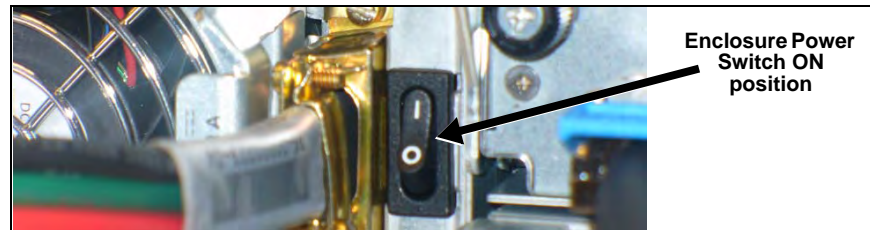

Figure 4.1 - Storage Enclosure DC Power Switch (Right)
3.	Power on the storage arrays. Power on the expansion enclosures first, then the controller enclosures. <ul style="list-style-type: none">a. Press the power switches to the ON position on both power modules at the back of each enclosure. Figure 4.1 shows the DC power switches. Press
the power switches to the ON position on both power modules at the back of each enclosure. **Figure 4.1** shows the DC power switches.